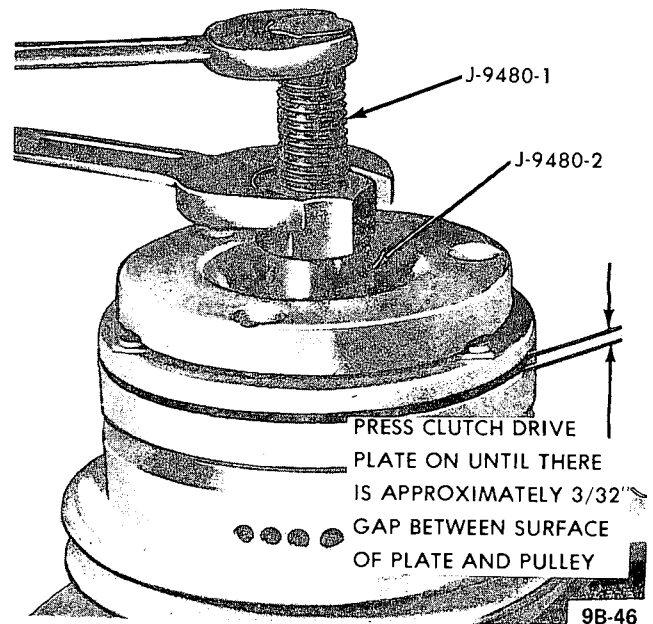

Figure 9B-70 Installing Clutch Drive Plate - 6 Cylinder Compressor
12. Reassemble retainer ring into hub of clutch drive plate (see Figure 9B-61) using No. 21 truarc pliers (J-5403).